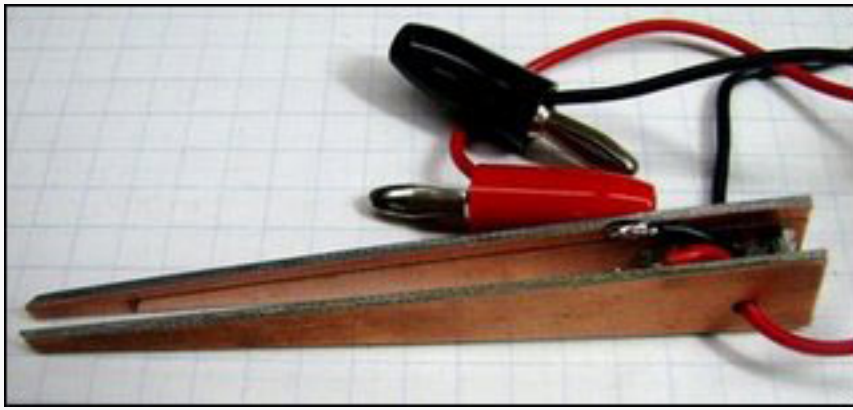

Figure 7. The finished product for testing SMD components.
6. Solder on some test leads with banana plugs (**Figure 7**), and you are ready to go. Using color-coded leads makes it a bit easier to check diodes.